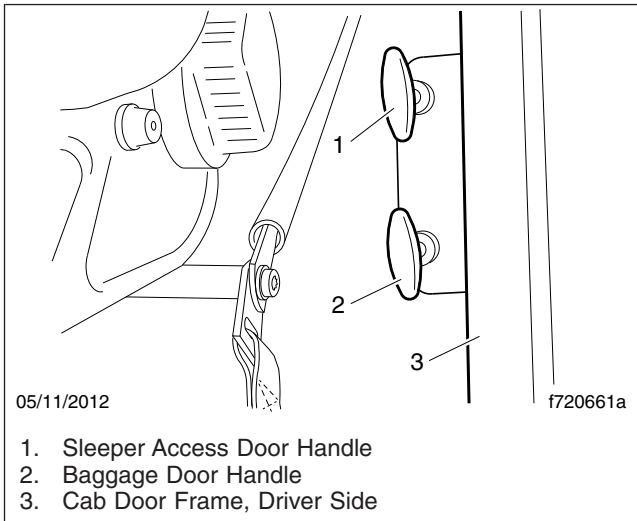

Fig. 2, Baggage Door and Sleeper Access Door Release Handles
1. Open the baggage door and the sleeper access door (if equipped) by pulling the release handle(s) located inside the cab door opening. See Fig. 2.